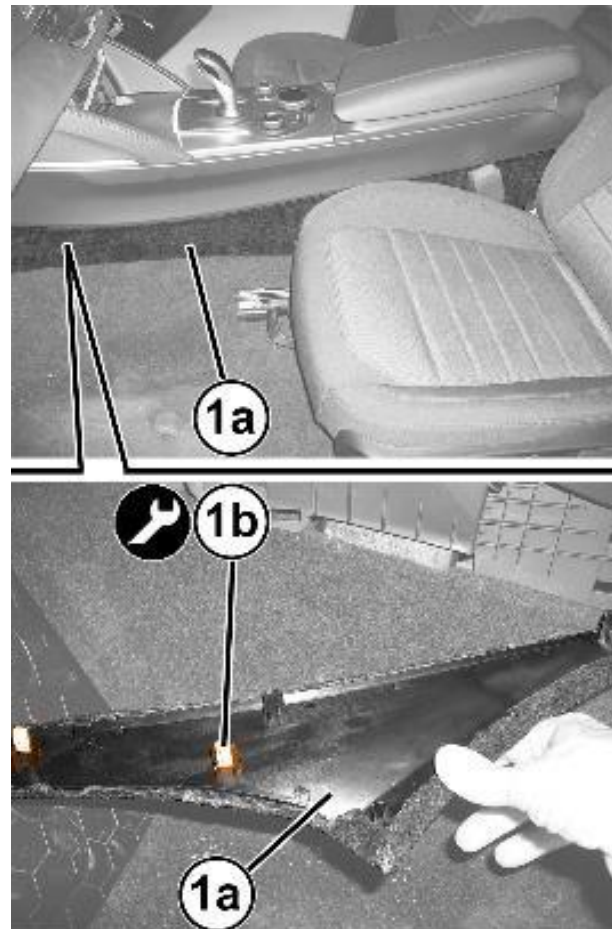

Figure 38 – Console Side Closure
19. Remove the console side closure (1a), by disengaging the various inner retainers (1b) using the appropriate tool Trim Stick C-4829A (1823015000) (Figure 38).